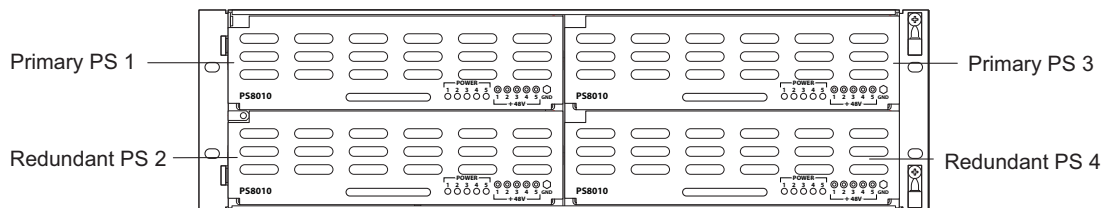

Figure 3-7. NV8000 Power Supply (Front View)
- c Facing the front of the **NV8000**, install the primary PS8010 power supply modules in slots *PS 1* and *PS 3*, as shown in Figure 3-7.
- d (Optional) Facing the front of the **NV8000**, install the redundant PS8010 power supply modules in slots *PS 2* and *PS 4*, as shown in Figure 3-7.